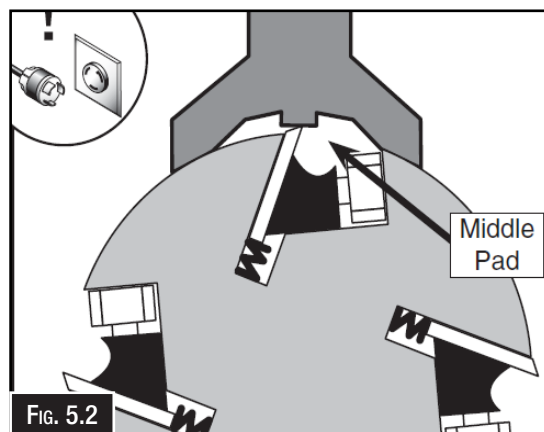

FIG. 5.2
- a) To use the adjustment springs to set the knife height: Push the knife down with the gauge so that the edge of the knife is touching the center reference pads on the gauge. Hold the gauge down and tighten the bolts to secure the knife in place. Repeat for the 2 other knives. (Fig 5.2)